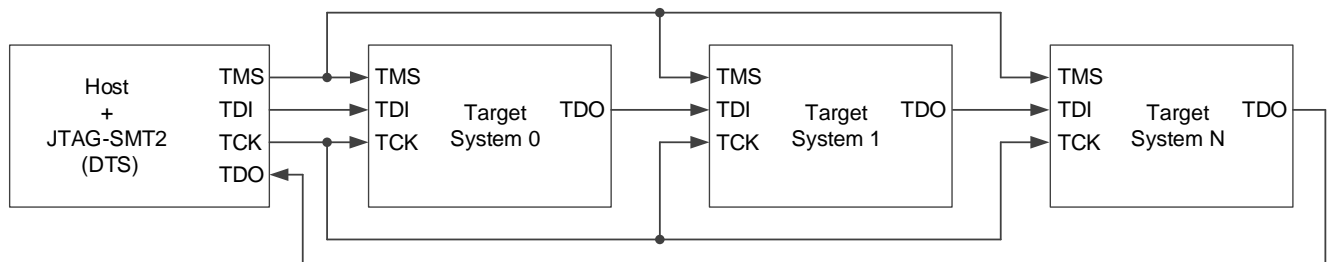

Figure 3. 4-Wire series topology.
The JTAG-HS2 supports several scan formats, including the JScan0-JScan3, MScan, and OScan0 - OScan7. It is capable of communicating in 4-wire and 2-wire scan chains that consist of Class T0 – T4 JTAG Target Systems (TS) (see Figs. 3 & 4).